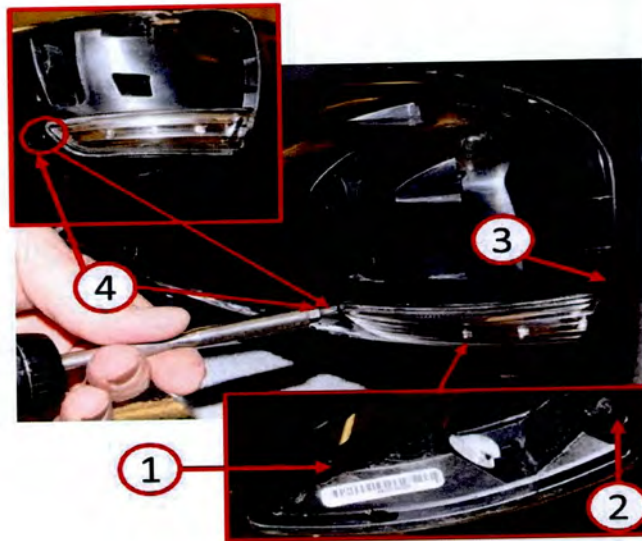

Fig. 6 Signal Lamp Installation
15. Insert the new turn signal (1) into mirror housing by sliding the tab (2) under the shell housing slot (3) and re-secure it to the housing using the retaining fastener (4) (Fig. 6).